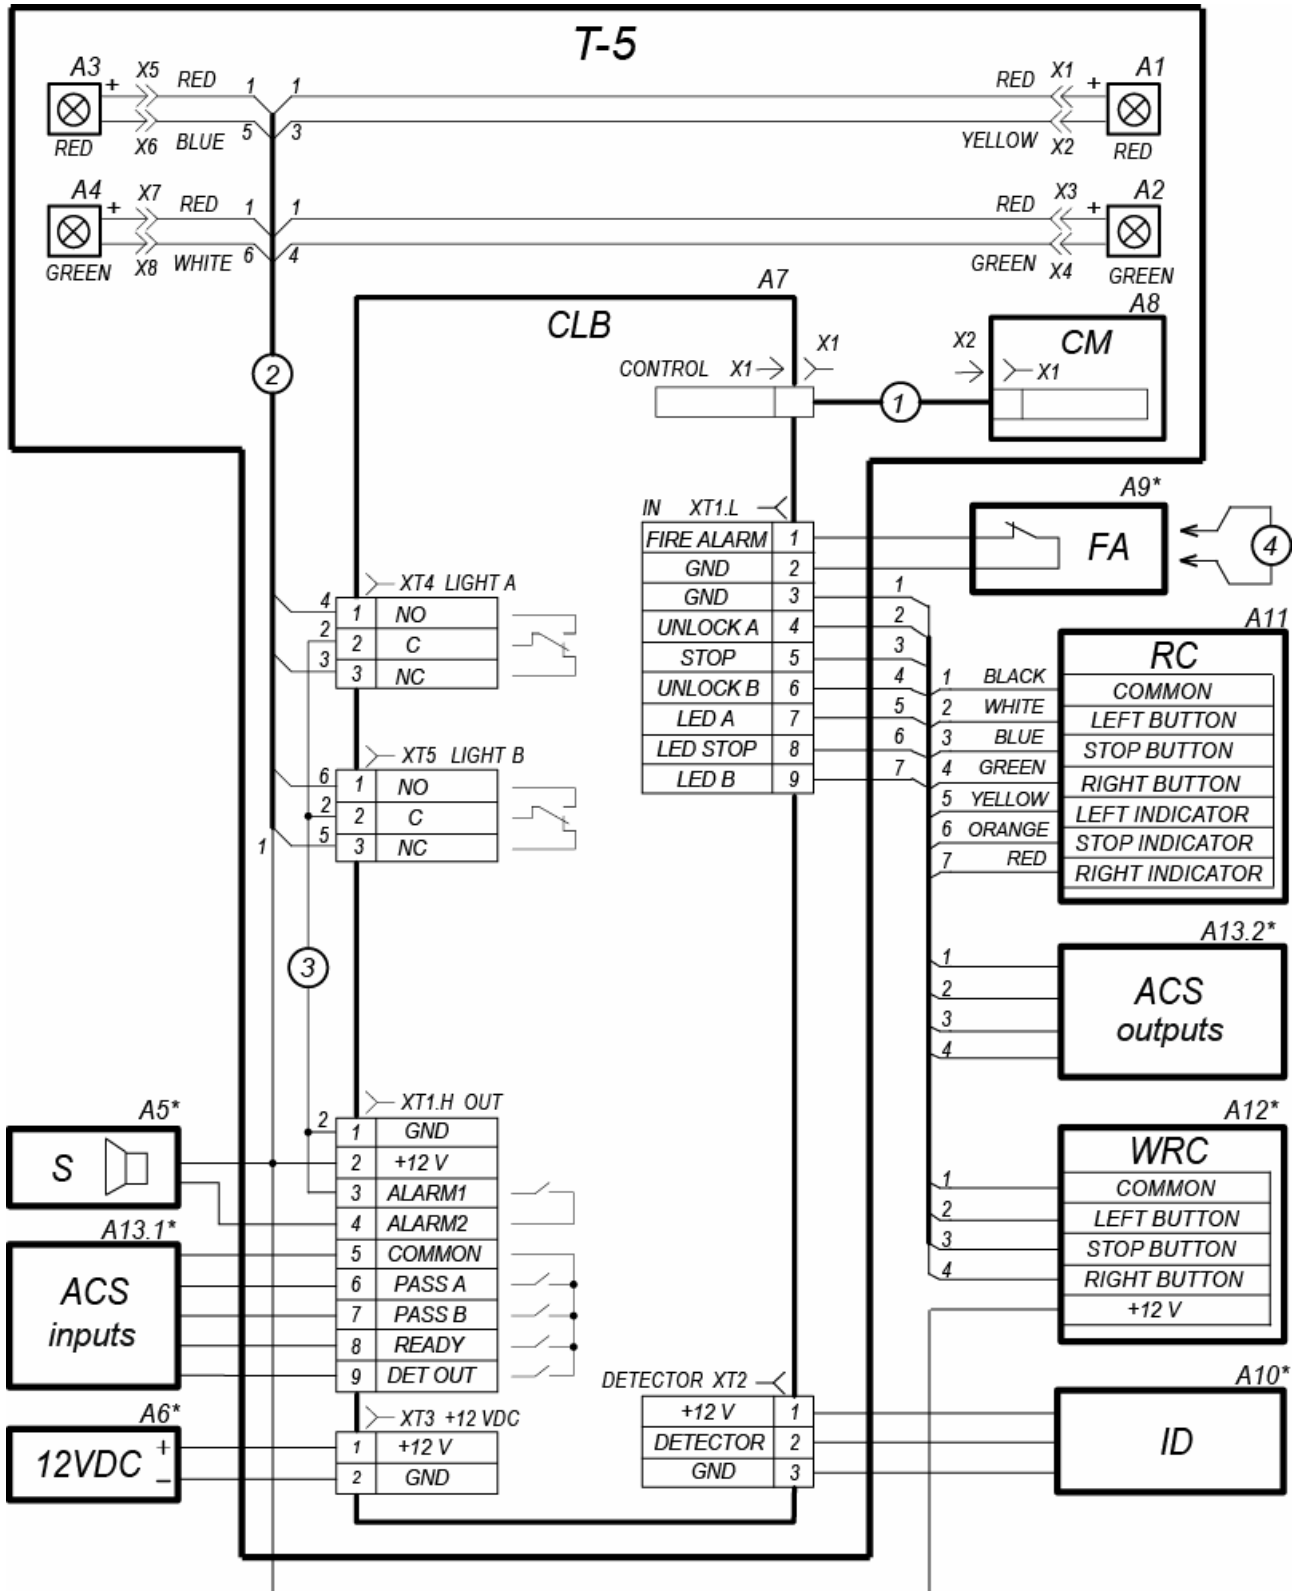

Figure 10. Connection layout
- 6 Connect the power cable (8) from the turnstile power supply (7) to the CLB **XT3** connector block. Connect the RC-panel cable (6) to the CLB **XT1.L** connector block. Connect cables of all the other devices to the corresponding CLB connector blocks (ref. Fig. 2 and Fig. 10).
- 7 Check the accuracy, reliability and safety of all electrical connections. Using nylon cable ties included in the delivery set, fix all the cables in two points: to the special opening on the turnstile housing horizontal plane and to the special opening on the mechanical release lock inside the turnstile housing. Return the cover (4) back in its operative position in the order reverse to its removal.
- 8 To mount the barrier arms into the run position remove the cover from the hub (12) after unscrewing the screw. Fit the barrier arm (2) into the mounting hole on the hub (12) and fasten it with the bolt. Put a spring washer under the bolt head. The bolts
Table 2. Legend to Fig. 10